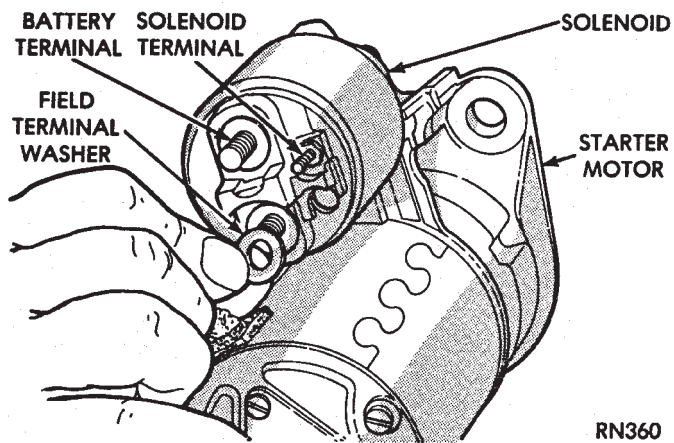

Fig. 16 Field Terminal Washer
(3) Remove field washer (Fig. 16).